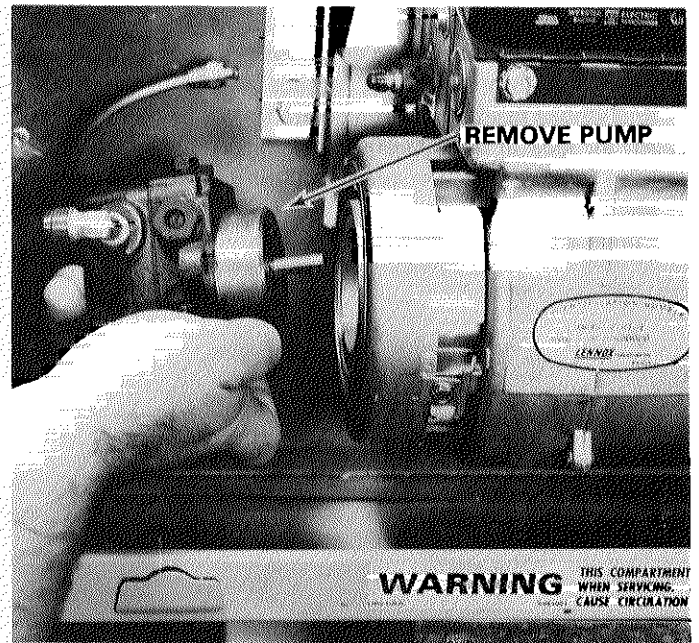

FIGURE 10
- 2 - Remove bolts securing pump to burner box. Pull pump from burner box as shown in Figure 10.